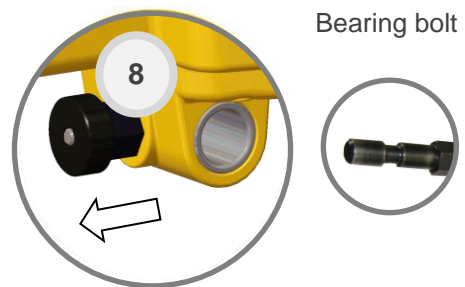

Fig. 7
- Slide the saw onto the bearing bolt of the clamp and fix it with the locking device 8 (see fig. 7).